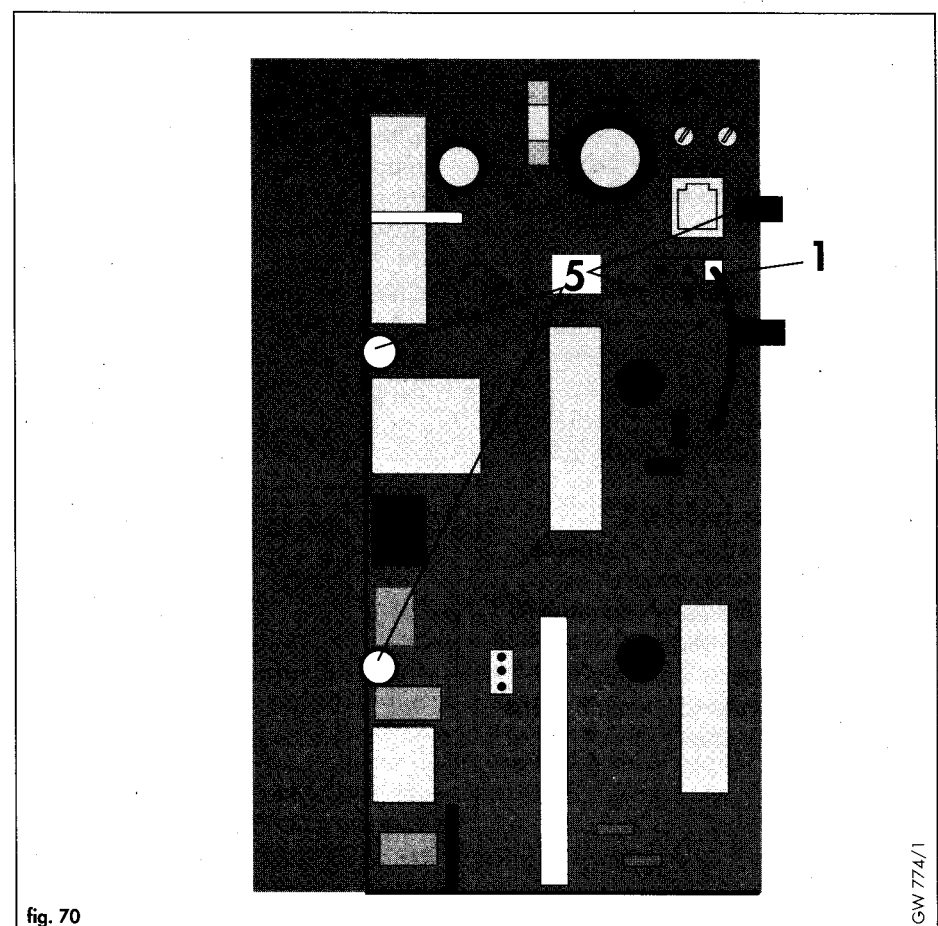

fig. 70
- Push four spring retaining clips (5, fig. 70) out, and gently lift control board out of control box.